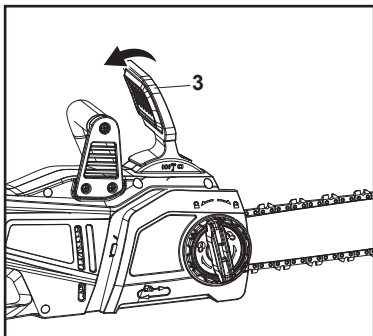

Fig. 14, Disengaged chain brake
Disengaged chain brake: When the chain brake lever (3) is in the disengaged position, the product can be operated normally (Fig. 14).